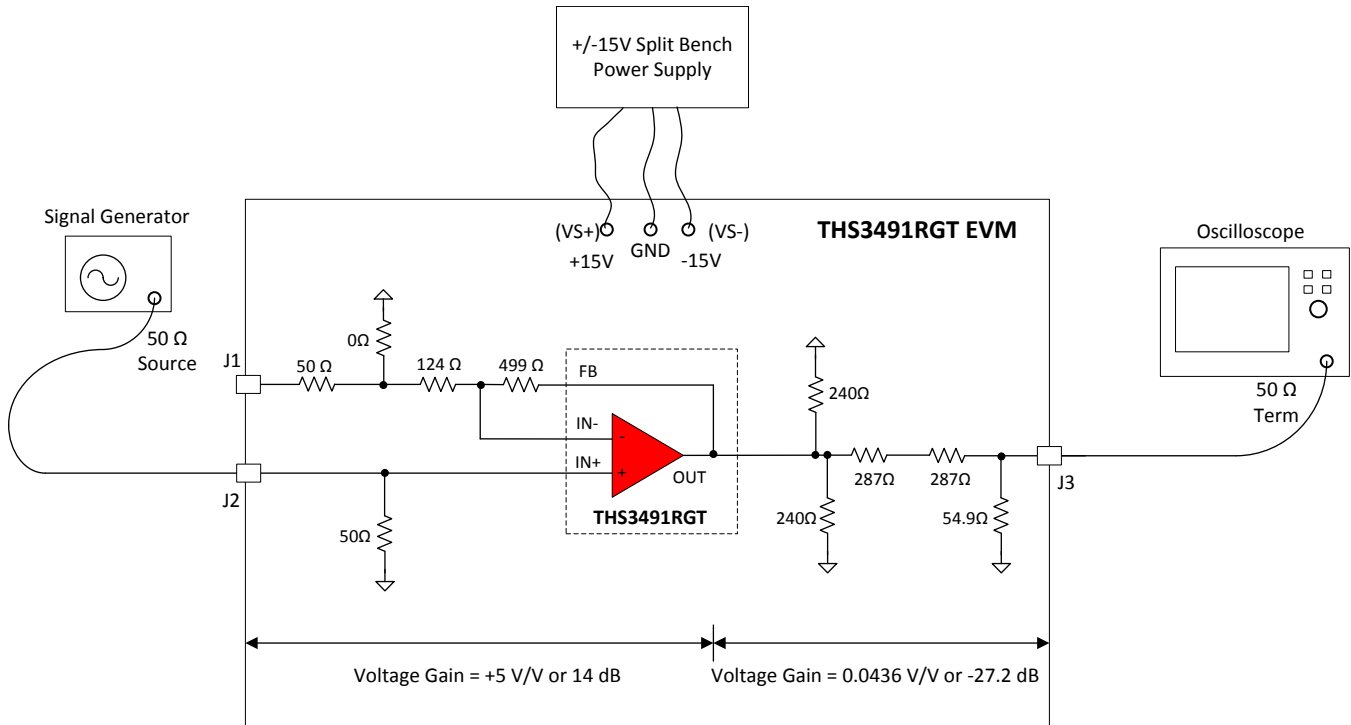
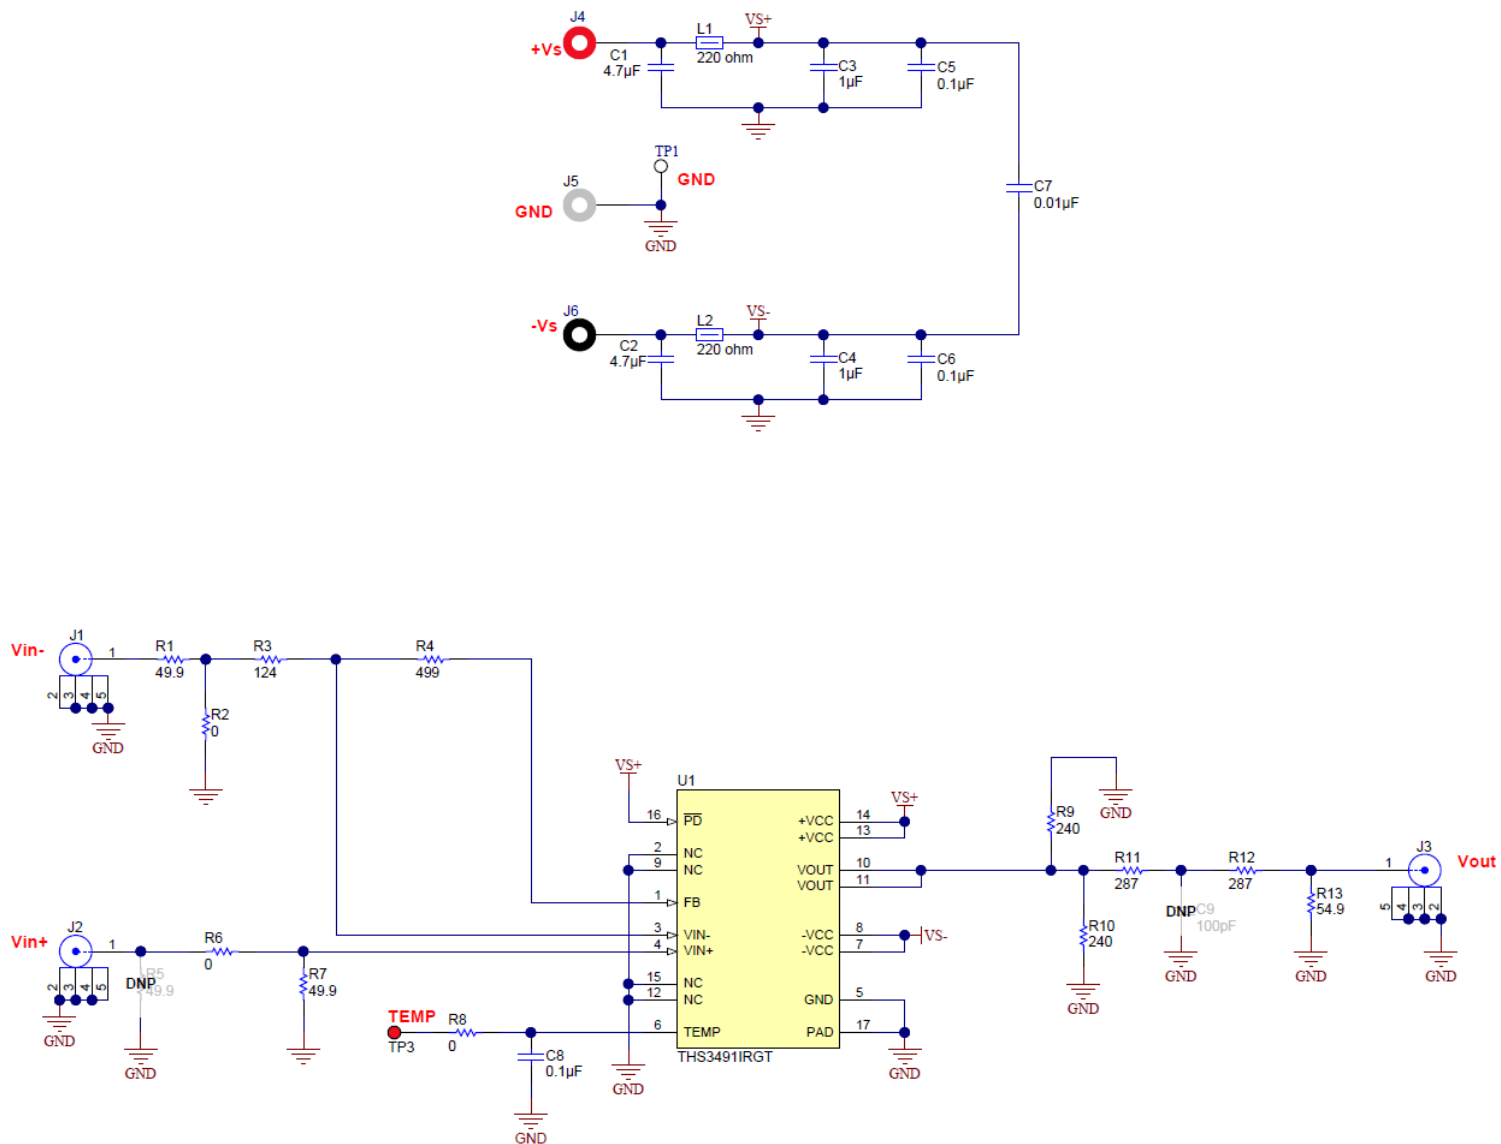

Figure 1. THS3491RGT EVM Default Configuration Setup Block Diagram
Figure 3. Full Schematic of the THS3491IRGT EVM
As delivered, the EVM has a fully functional example circuit; just provide power supplies, a signal source, and a measuring instrument as shown in Figure 1. Some components, such as supply bypass capacitors and test points, are omitted on the application schematics of Figure 1 for clarity.
See Figure 3 for the default schematic diagram of the THS3491RGT EVM.
The THS3491RGT EVM default configuration is a single-ended input, single-ended output non-inverting gain of 5 from SMA input (J2) to the THS3491 device output pins as shown in Figure 1. The default configuration for non-inverting gain of 5 is determined by R3, and R4 in Figure 3. This gain is calculated according to Equation 1 that is given below for non-inverting op-amp.
3.2 Power Supply Setup (Reference Figure 1)
3.3 Input and Output Test Setup (Reference Figure 1)
Figure 3 illustrates the EVM schematic.